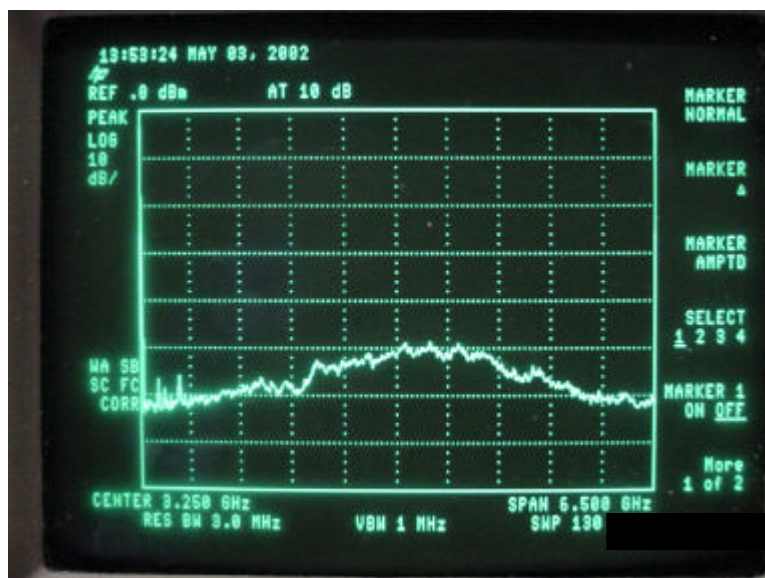

Fig. 2.2: Spectrum profile with Signal Generator operating through antennas
7. Power up the SG/T and switch the **Event/Cont.** switch to **Cont.** Hold the spectrum analyzer's receive only antenna within 2 cm. of the SG/T antenna. The two antennas should be held with flat faces parallel to each other and with the same orientation. With the spectrum analyzer on the same settings as before, you should notice a distinct, hump-shaped rise in the spectral power profile centered around 3.5 GHz as shown in Figure 2.2, or peaked at approximately -50dBm.